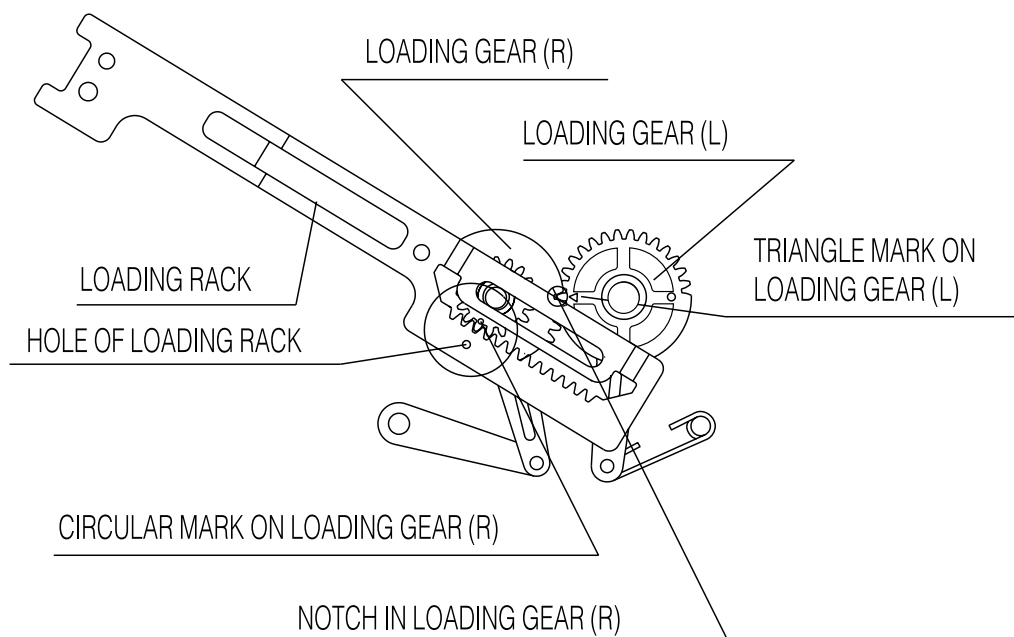

Fig.3-9 ASSEMBLY OF the R&L LOADING ASS'Y & LOADING RACK ASS'Y
- When reassembling, refer to Fig. 3-9